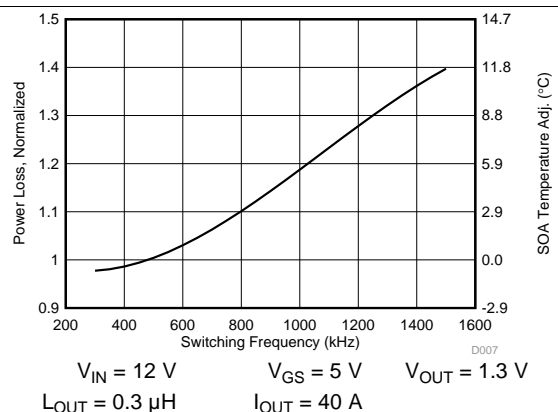

Figure 6. Normalized Power Loss vs Switching Frequency
- Normalized Power Loss for switching frequency ≈ 1.11 (Figure 6)